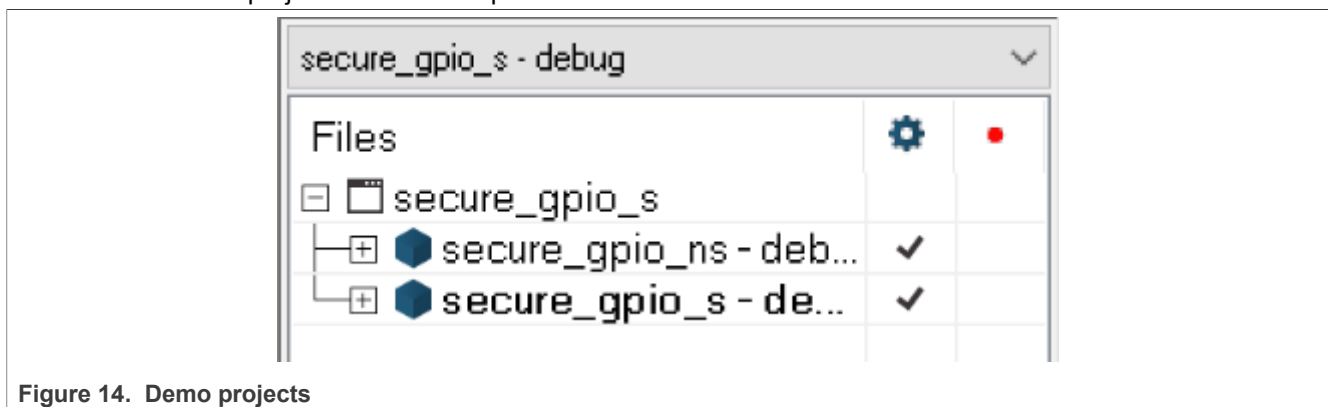

Figure 14. Demo projects
- Configure `secure_gpio_s` and `secure_gpio_ns` projects, as shown in Figure 14.